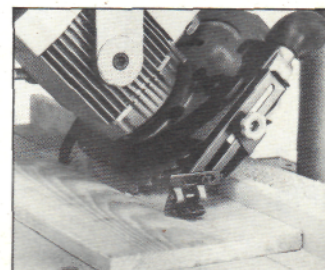

Fig. 34
- (iv) Angle the anti-kickback fingers so that they will be flat on the material being cut (Fig. 34) and lower the riving knife.